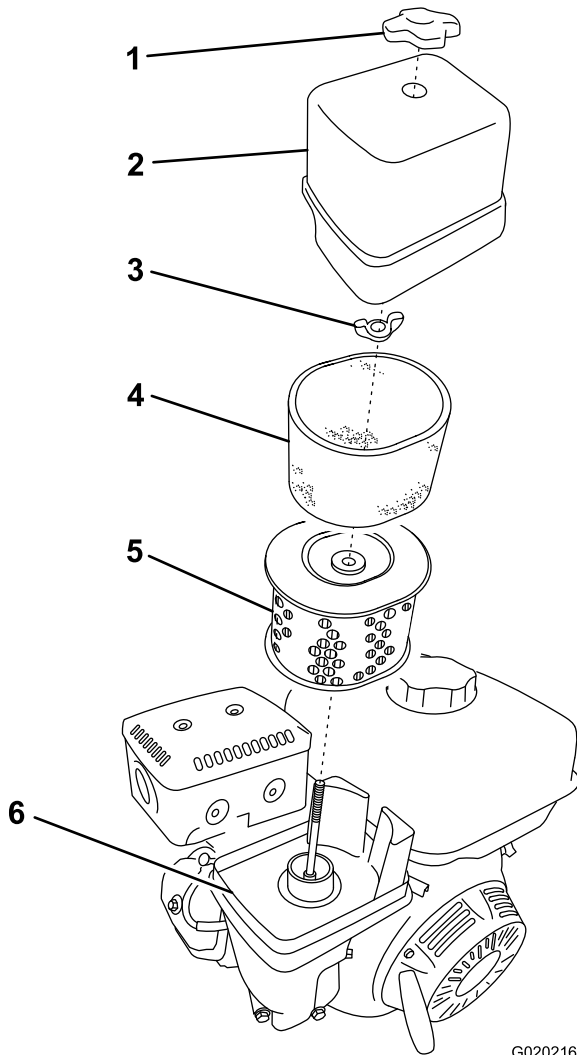

Figure 39
3. Remove the nut that secures the cover (Figure 39).
5. Remove the foam and paper elements from the base (Figure 39).
6. Remove the foam element from the paper element (Figure 39).